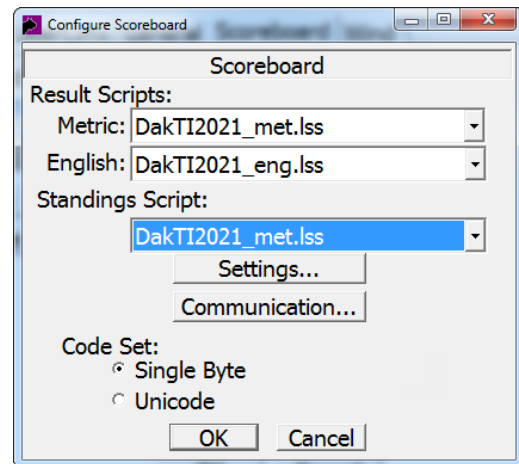

Figure 69: Configure Scoreboard
5. Click **Configure**. In the *Configure Scoreboard* window, select the correct script files as shown below and in **Figure 69**: